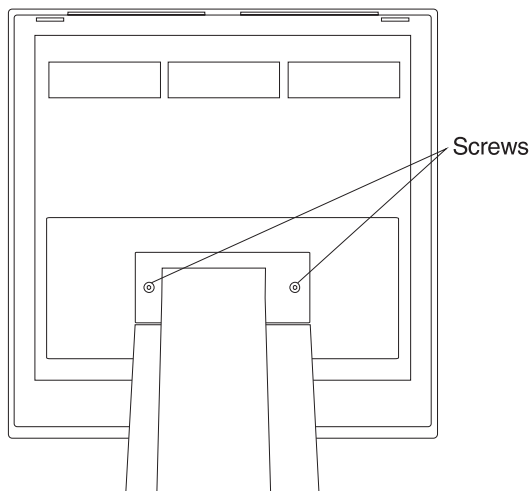

Figure 3-9. Removing the Tablet
- 16 To remove the tablet rear cover, remove the two screws that fasten the rear cover to the clutch using an allen wrench. See Figure 3-9. for the location of the screws.
- 2 Remove the two allen head screws from the back of the tablet and remove the tablet. See Figure 3-9 for the screw locations.